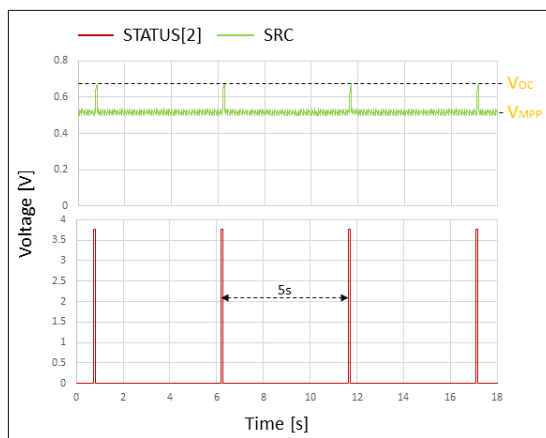

Figure 4: SRC and STATUS[2] while energy is extracted from SRC (BATT under Vovch)
- **SRC**: Regulated at V_{mpp} , which is a voltage equal to the open-circuit voltage (V_{oc}) times the MPP ratio of 75%. V_{src} equals V_{oc} during MPP evaluation (see Figure 4). Note that V_{src} must be higher than 380 mV to coldstart.
- **STATUS[2]**: Asserted each time the AEM10941 performs a MPP evaluation (See Figure 4).